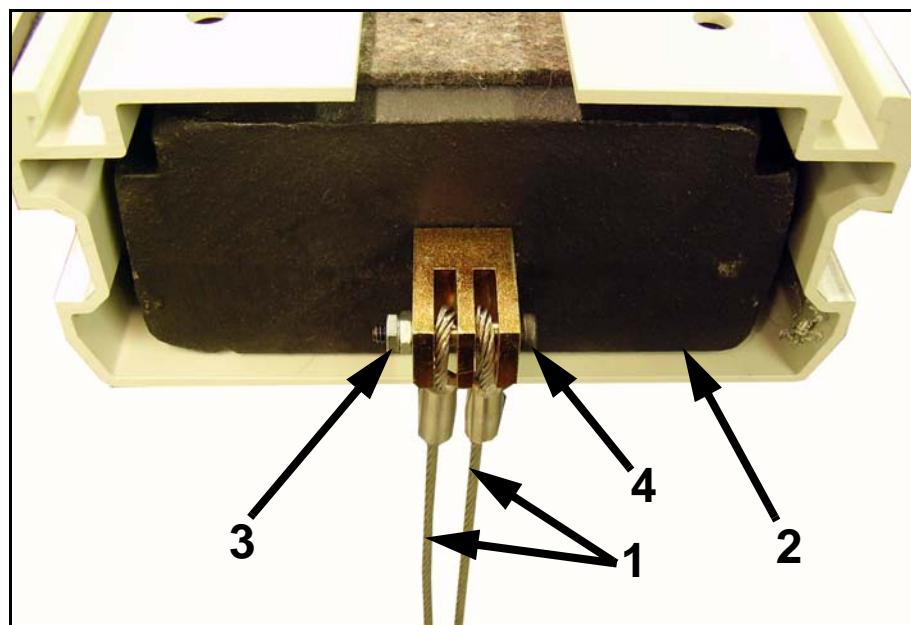

Figure 6-9. Counterweight Positioning
- 9 Pull on cable (1 in Figure 6-9) to drag the counterweight (2) to top of column as shown below.
- 10 Unscrew two nuts (3) and remove screw (4).